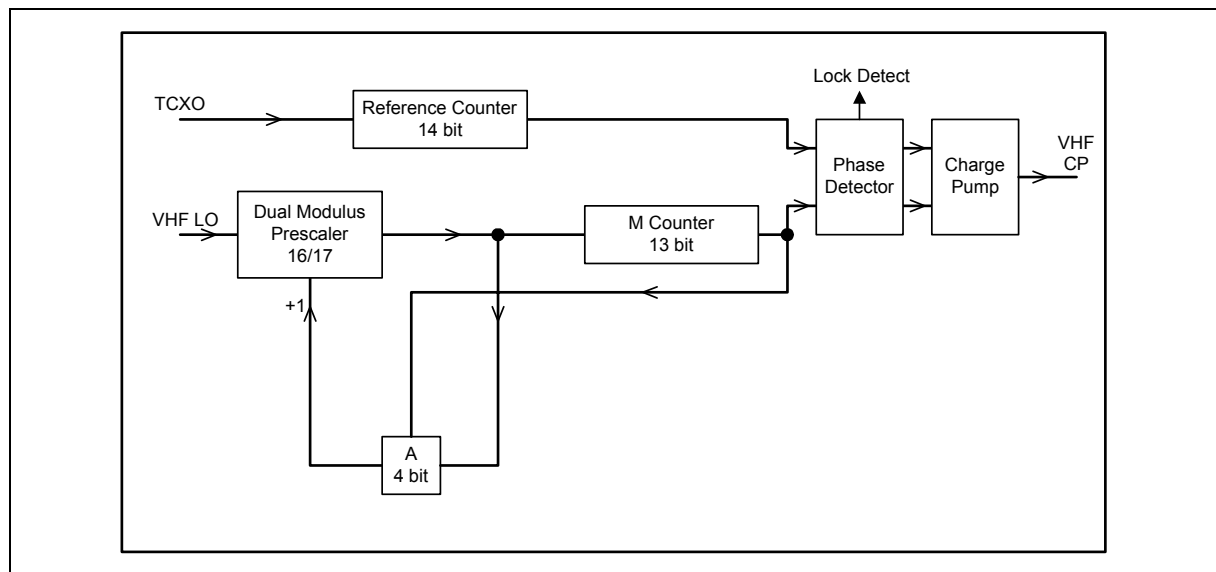

Figure 11 - VHF Frequency Synthesizer
An example is shown in figure 11 for a divide ratio of $596 + 2/5$. The values for M, A, B are calculated using the integer value (596) as in the previous example. The fractional denominator is programmed as 5 and the fractional numerator as 2. At the end of the first count cycle (596) the fractional counter is incremented to 2. At the end of the third count cycle the fractional N counter overflows, incrementing the A counter by 1 which gives a subsequent count cycle of 597. After five count cycles the sequence repeats with a total count of 2982 over the five count cycle giving a mean value of $596 + 2/5$.